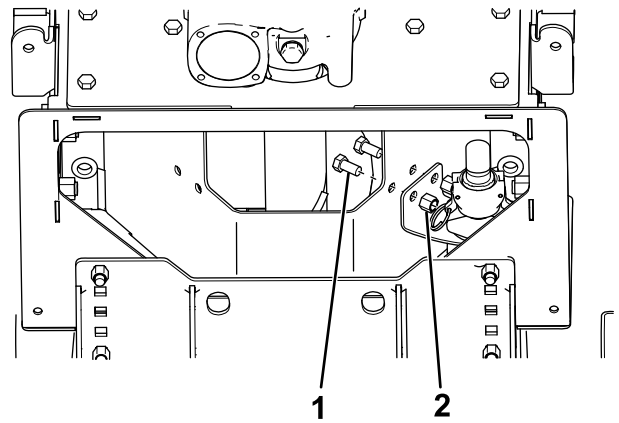

Figure 10
- For auger spreaders, mount the bracket to the auger trough as shown in Figure 10.